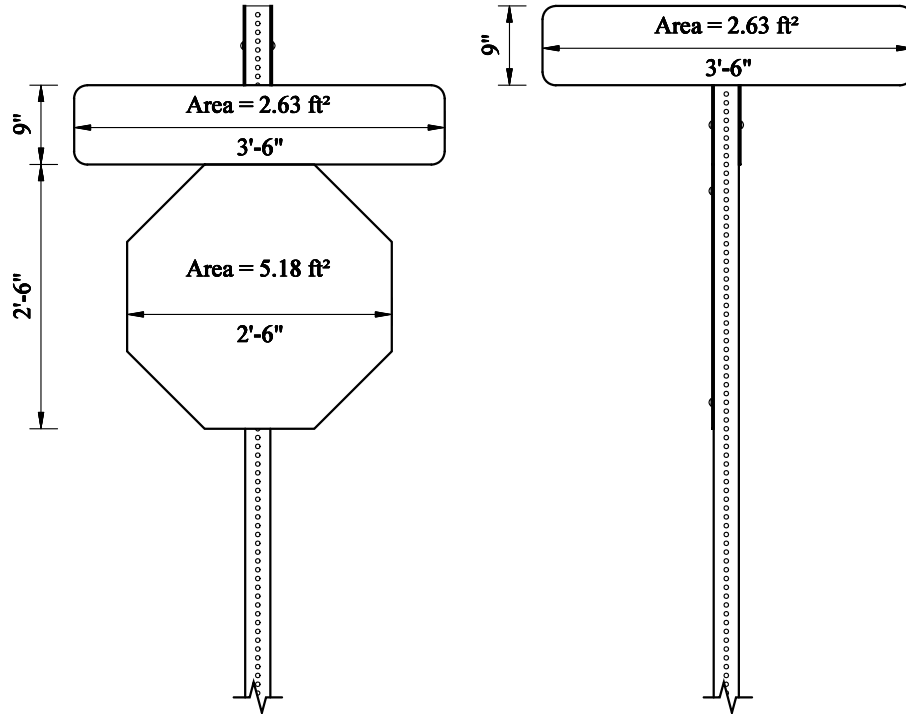

Figure 19 – Design Area Example 2
32. **Design Area:** The largest total surface area of the signs viewed from any given side. In Figure 19, the design area would be 7.81 ft2 not 10.44 ft2. For the **Non Standard Signs**, the design area is calculated automatically from the **Sign Height** and **Sign Width** fields. If the design area is different than what is calculated, enter in the correct value. The design area is automatically filled in for the **Standard Assembly** and **Variable Length Signs**.
- Hint:** For perpendicular signs, enter in a minus number and this will add post length to the top of the sign. In Figure 19, you would enter a “-9” in the **Sign to Top Post** field.